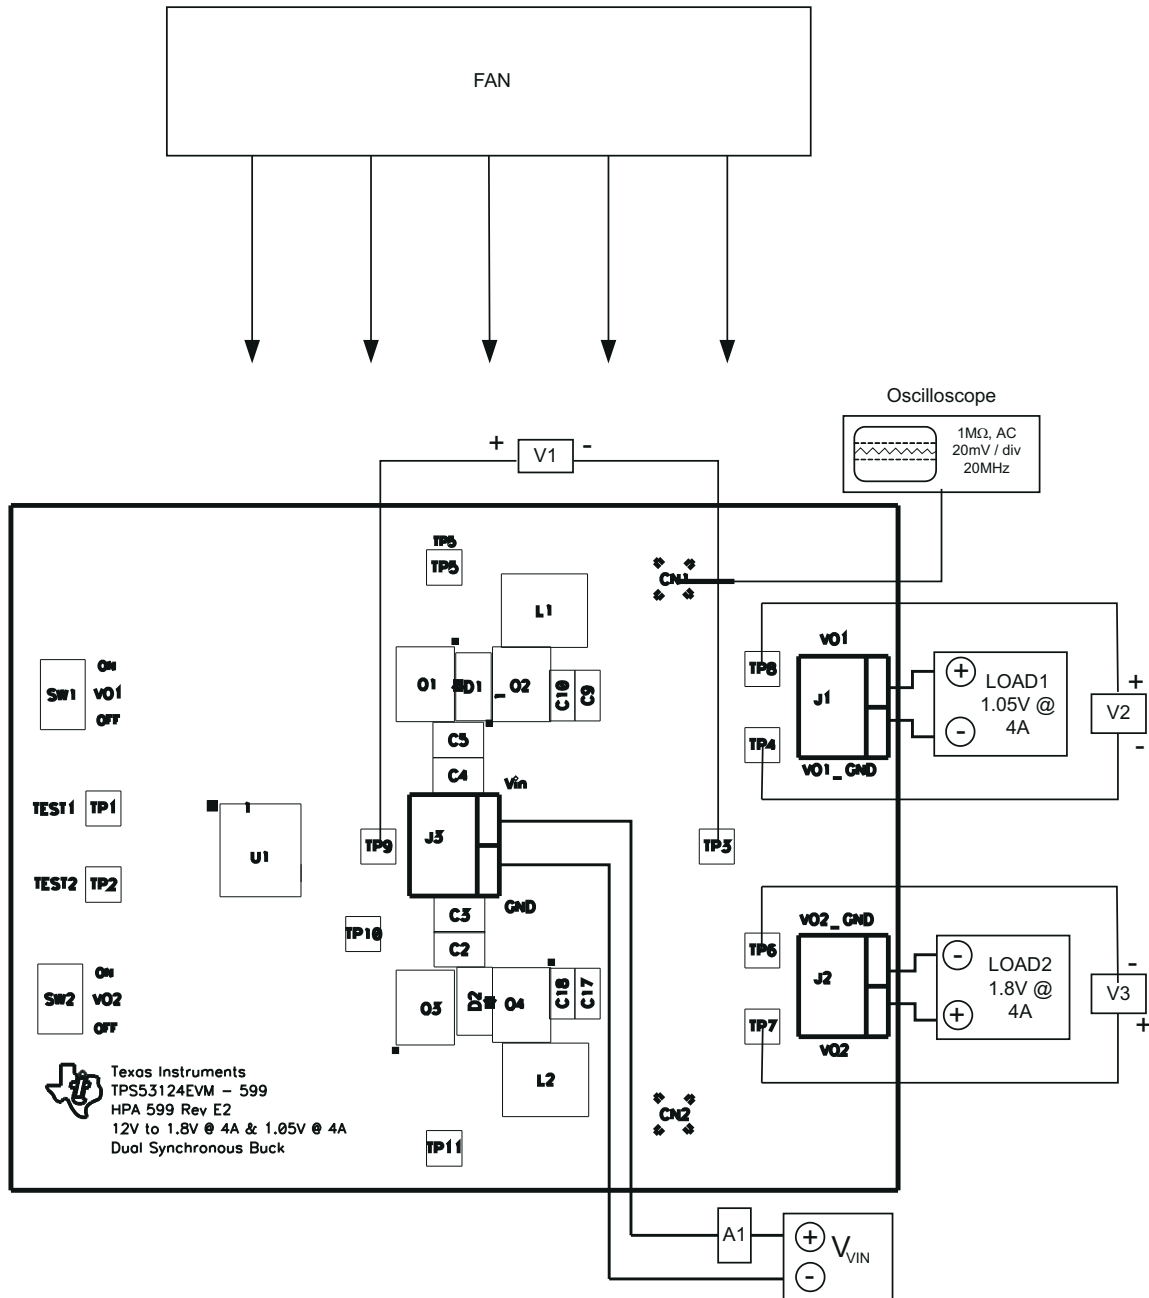

Figure 5-1. TPS53125EVM-599 Recommended Test Setup
Figure 5-1 shows the basic test setup that is recommended to evaluate the TPS53125EVM-599. Note that although the return for J3 and J1 and JP2 are the same system ground, the connections must remain separate as shown in Figure 5-1.
2. Prior to connecting the DC input source, V_{IN} , it is advisable to limit the source current from V_{IN} to 3 A_{DC} maximum. Ensure that V_{IN} is initially set to 0 V and connected as shown in Figure 5-1.
5. Connect an oscilloscope probe to CN1 or CN2 shown in Figure 5-1.